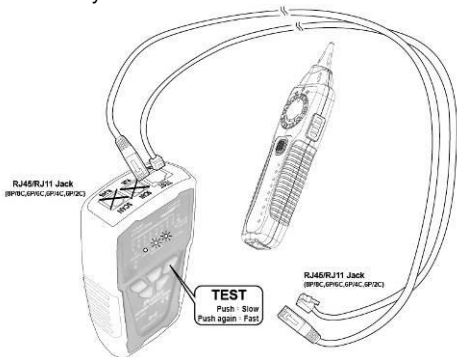

Figure 5 Validating Cable Maps
4. You can use the MT-7029 to validate the cable map on RJ11 and RJ45 connectors. The cable map function finds the most common wiring status on twisted pair cabling: good, shorts, opens, and crossed pairs as shown in Figure 5.